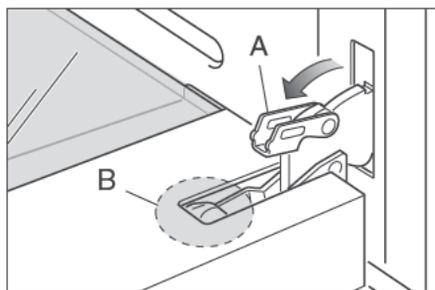
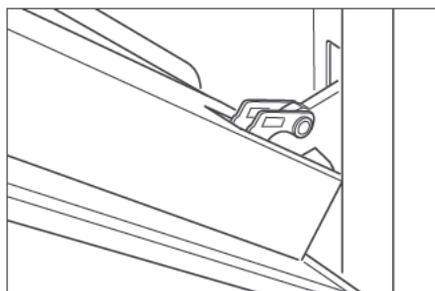

Fig.25b
Fig.25c
- Fully open the oven door (Fig. 25b).
- Fully open the lever "A" on the left and right hinges, (Fig. 25b).
- Gently close the door (Fig. 25c) until the left and right hinges are hooked to part "B" of the door (Fig. 25b).